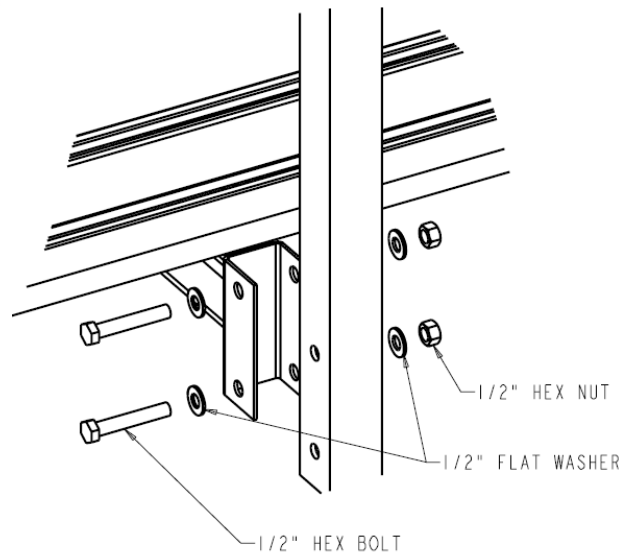

Figure 23 – Post installation
8. Starting with HR-1, loosely bolt the post(s) to the bracket(s) using the hardware, as shown in Figure 23.